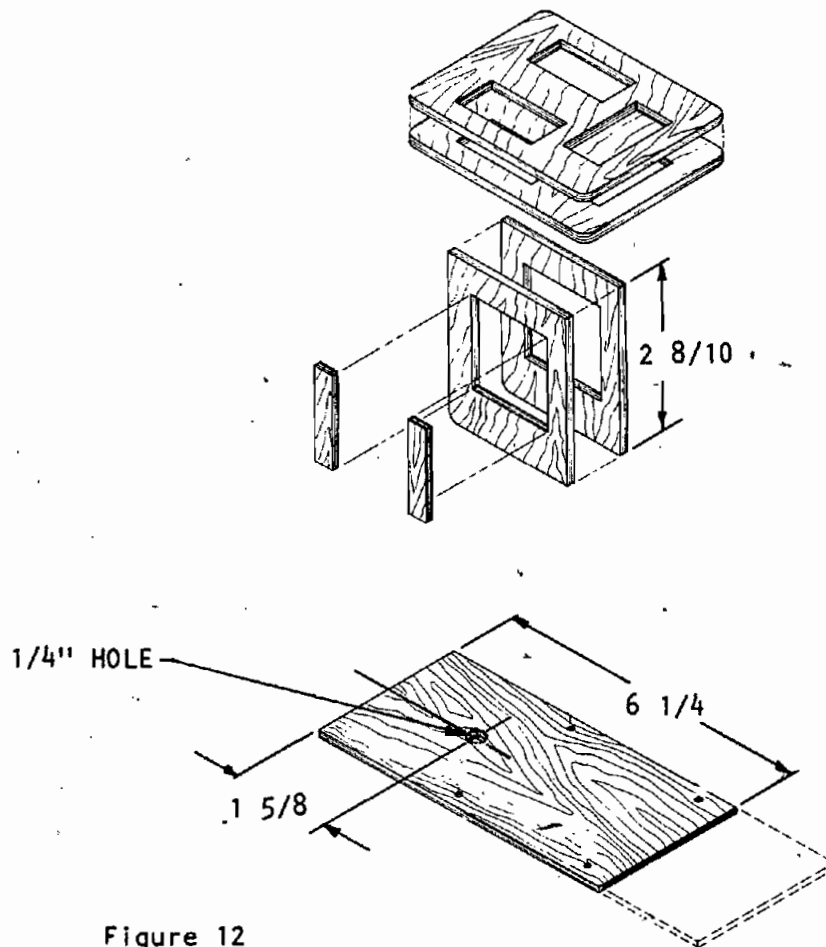

Figure 12
STEP 16 SERVO TRAY ASSEMBLY - see Figure 12.
- J. Fit the 6 1/4 x 2 7/8 x 1/8 inch plywood floor to the front stays on the helicopter and drill four 1/8 inch holes to match the mounting holes in the horizontal aluminum stays. Drill 1/4 inch dia. access hole as shown in Figure 12.